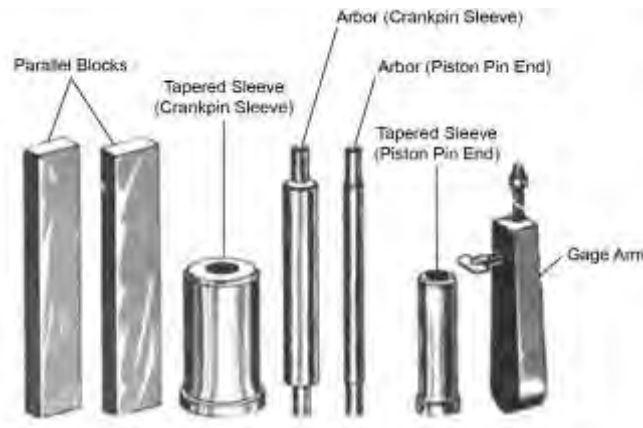
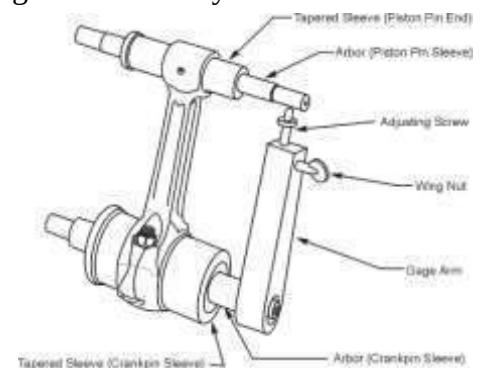

Figure 37
Figure 38
For the parallelism check, measure the distance between arbors (Figure 37). For exact parallelism or alignment, the distances measured on both sides are to be the same. For the squareness check, use a feeler gage to measure the clearance at the four check points where the arbors rest on the parallel blocks (Figure 38). Compare the clearance between each arbor and the parallel blocks against the values in the latest revision of the **Service Table of Limits - SSP-1776**. If out of tolerance, replace the connecting rods and examine the crankshaft to make sure the crankshaft is not damaged.
NOTICE: The Connecting Rod Parallelism and Squareness Gage P/N 64530 (Figure 37) is necessary for this check.
- B. Insert the tapered sleeves (Figure 38) of the Connecting Rod Parallelism and Squareness Gage P/N 64530 in the bearing holes in the connecting rod.
- D. Install the gage arm on the arbor as shown in Figure 38.